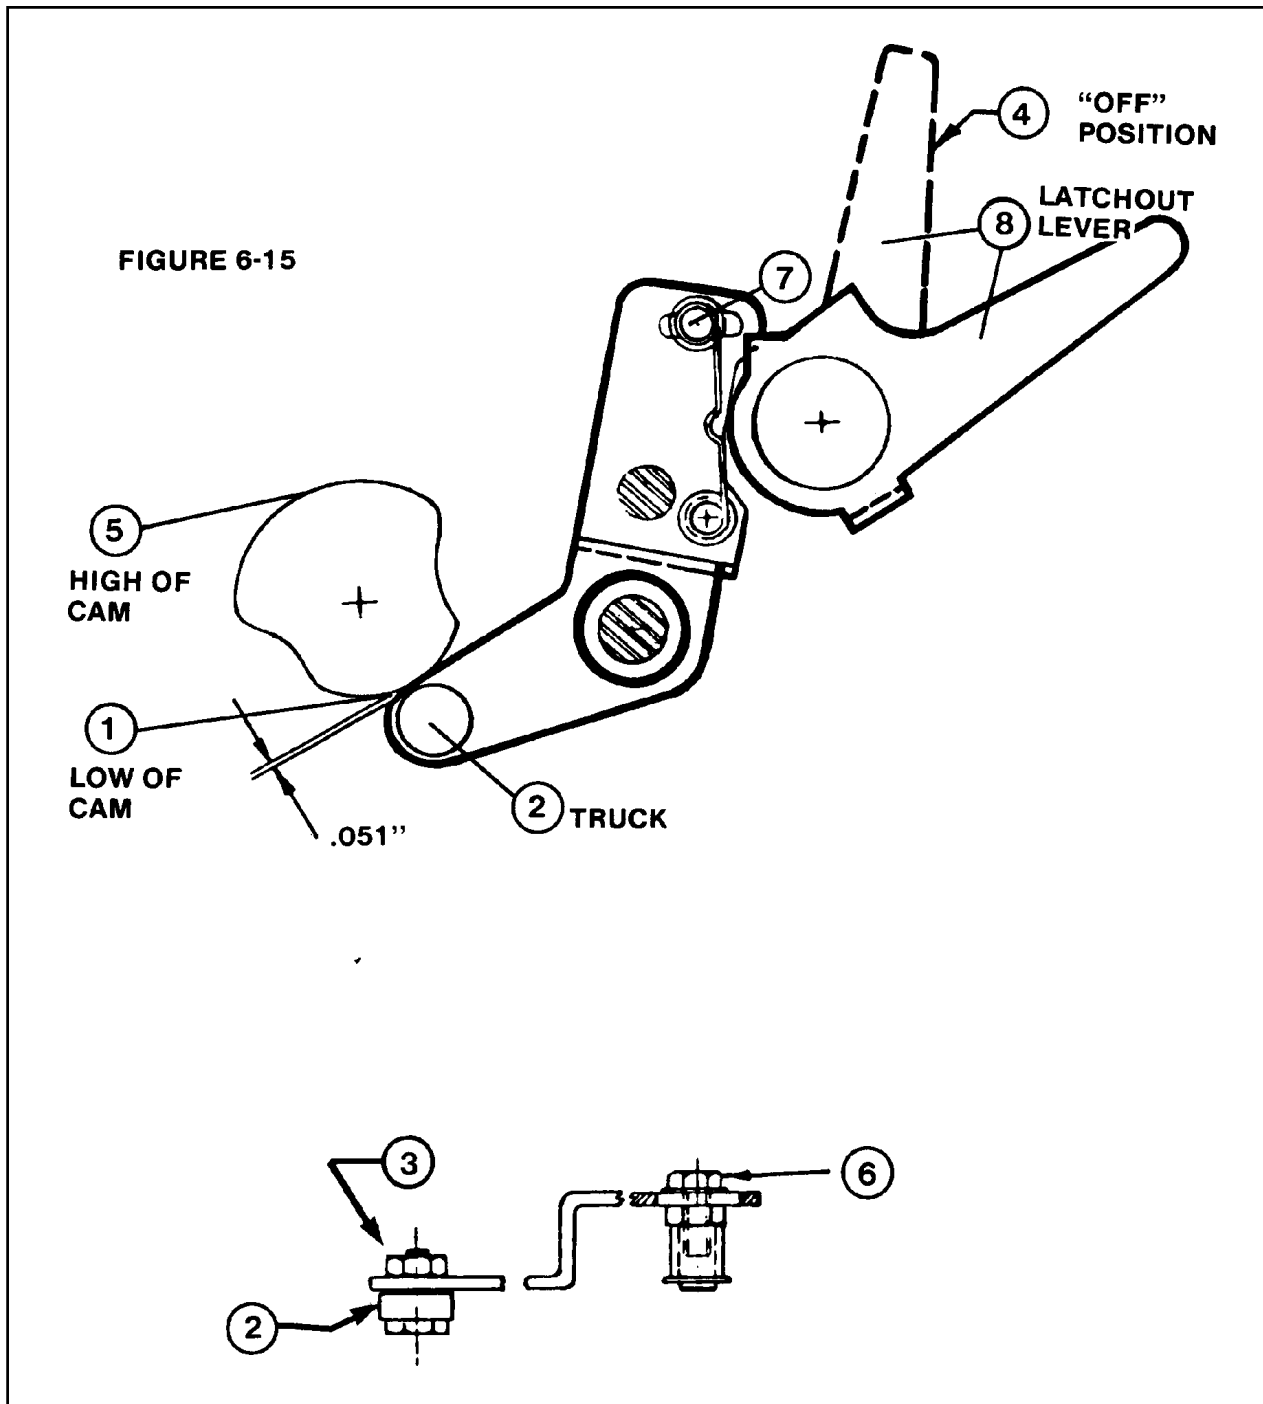

Figure 53 - Ductor Lever Truck to Cam and Ink Ductor Latchout
1. Rotate the cam to the center point of the "low" (1) in relation to the truck (2) (see Figure 53).
2. Loosen the nut (3) on the truck and stud assembly (2).
3. Rotate the stud on the truck assembly until a clearance of .051" is achieved between the truck (2) and the center of the "low" on the cam (1).
5. When the ink ductor latchout lever is in the "OFF" position (4), the ink ductor roller should remain in full contact with the distributor roller at all times.
6. To adjust, turn the handwheel until the ductor Cam is at its "high" point (5) holding the ink ductor roller against the distributor roller.